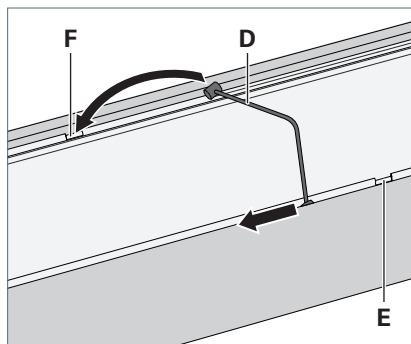

Fig. 3: Hanging wire rope into luminaire.
- Insert one end of the wire rope **D** into the opening **E** on the top of the luminaire, see Fig. 3.